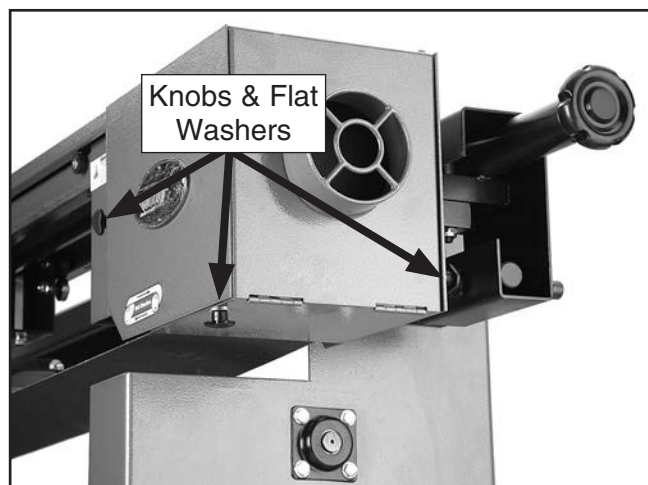

Figure 22. Knob placement.
16. Close the idler wheel cover doors and secure them with (3) $\frac{1}{4}$ "-20 x $\frac{1}{2}$ " knobs and $\frac{1}{4}$ " flat washers (**Figure 22**).